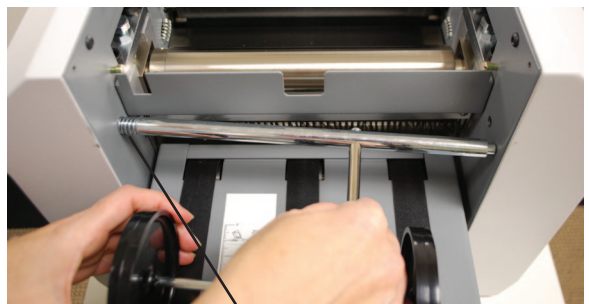

Fig. 2d
5. Install the out-feed nip wheels into the two holes located at the out-feed of the sealer (Fig 2d). Insert the side of the rod with the spring first, push in and then insert the other side. Reinstall the top fold plate and close the top cover.